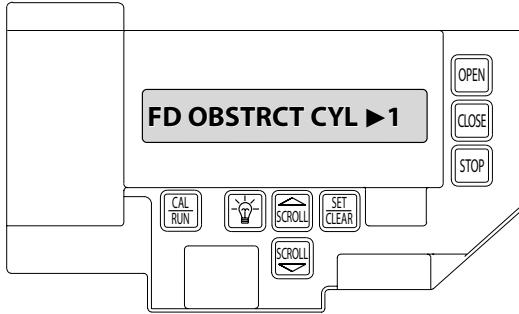

Fig. 13
- 1) Press SET/CLEAR to toggle between 1 or 3 cycles. Fig. 13